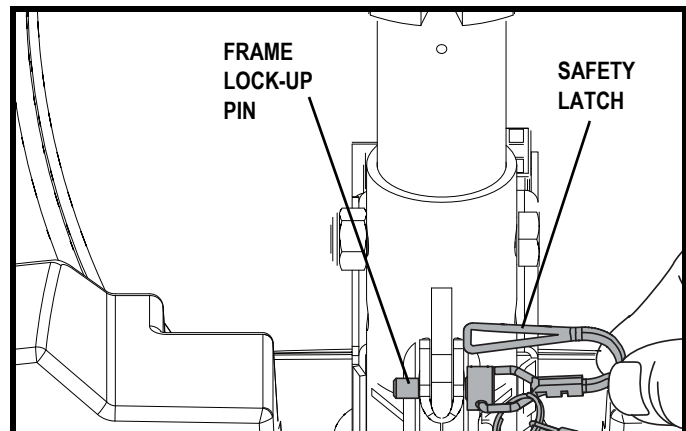

Figure 23. Frame Lock-up Pin
2. Remove the frame lock-up pin. See **figure 23**.